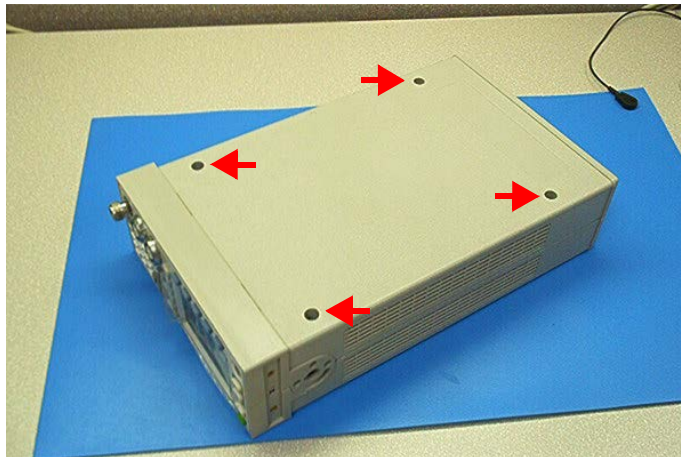

Figure 5-2
- Separate the clamshells (Figure 5-2): Use the T20 Torx screwdriver bit to loosen the 4 captive screws.